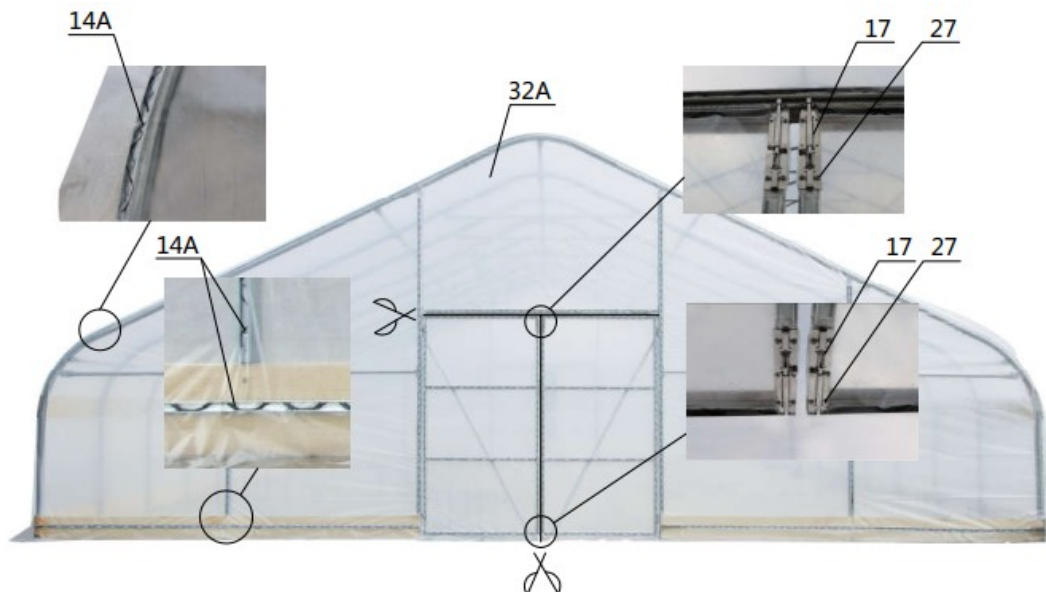

Figure 9
Step 6 : Install front and rear film (refer to figure 9)